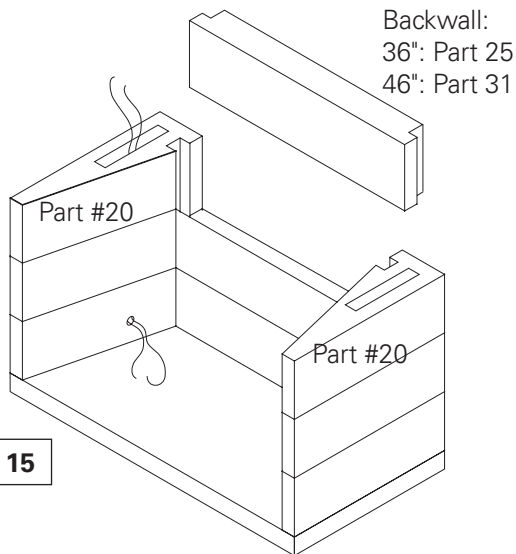

FIGURE 15
3. Continue assembly of the consecutive courses of the firebox side wall and back wall. Apply Adhesive to the top of each layer of wall components, set the next course above into place. Be sure to Adhesive all vertical joints of the side wall to back wall connection when setting each component to its mate. **(Figure 15)**